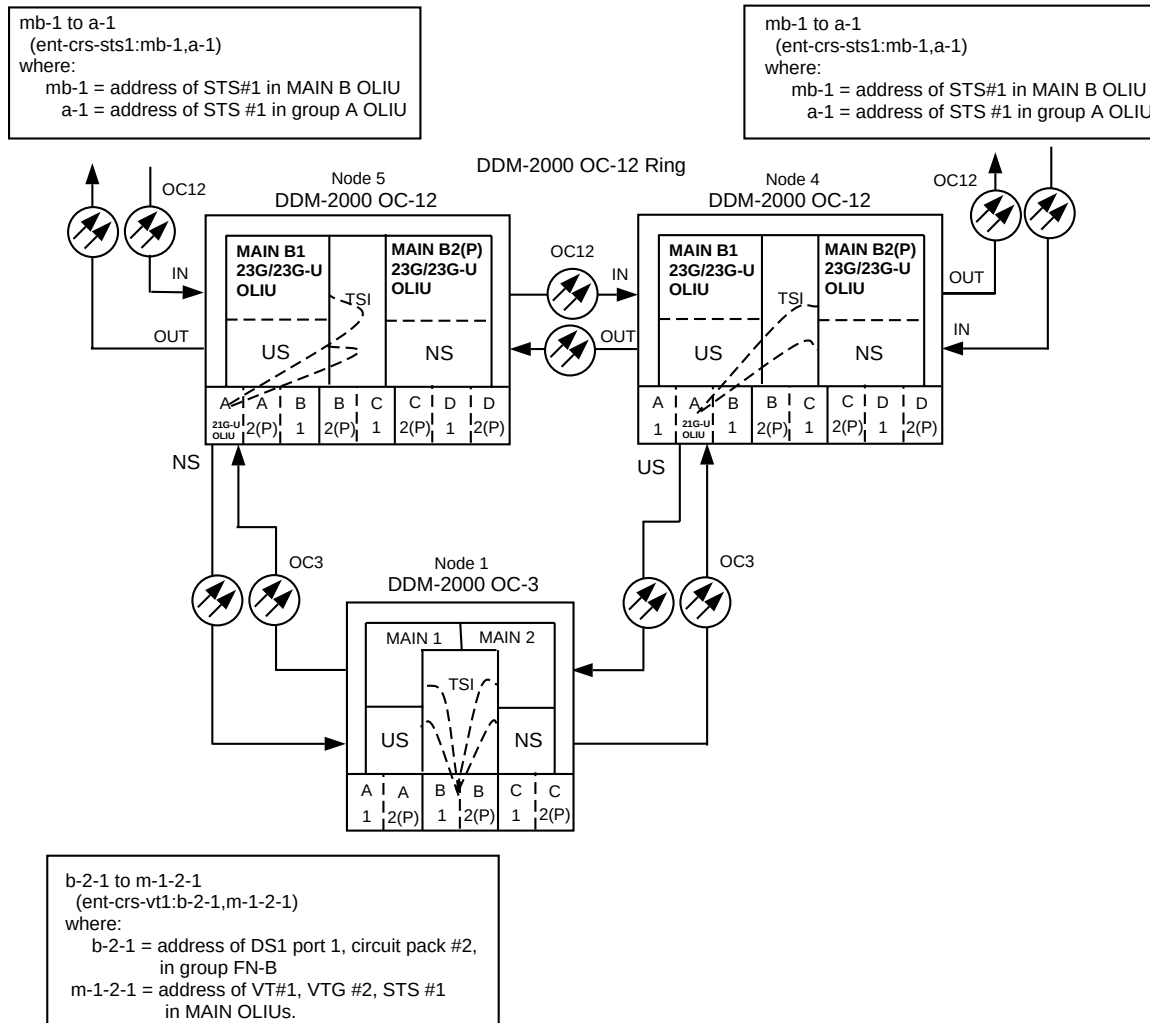

Figure 5. Example of Dual Homing OC-12/OC-3 Cross-connections
10. At both terminating (drop) nodes of the circuit being established, use the **"ent-crs-():"** command to make the terminating cross-connections (for example at the OC-3 node in Figure 5, **"ent-crs-vt1:m-1-2-1,b-2-1:cct=twoway"**)
11. At the host OC-12 ring node sites, make proper cross-connections. For example, in Figure 5 at Node 5, if STS-1 channel #1 from the OC-3 **MAIN 1 OLIU** is to be cross-connected to STS#1 in the OC-12 **MAIN B 1 OLIU** then the command **"ent-crs-sts1:mb-1,a-1:cct=twoway"** would be used to make the cross-connection.